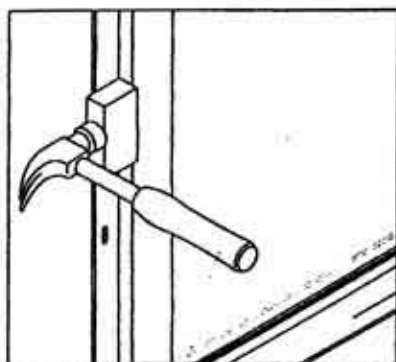
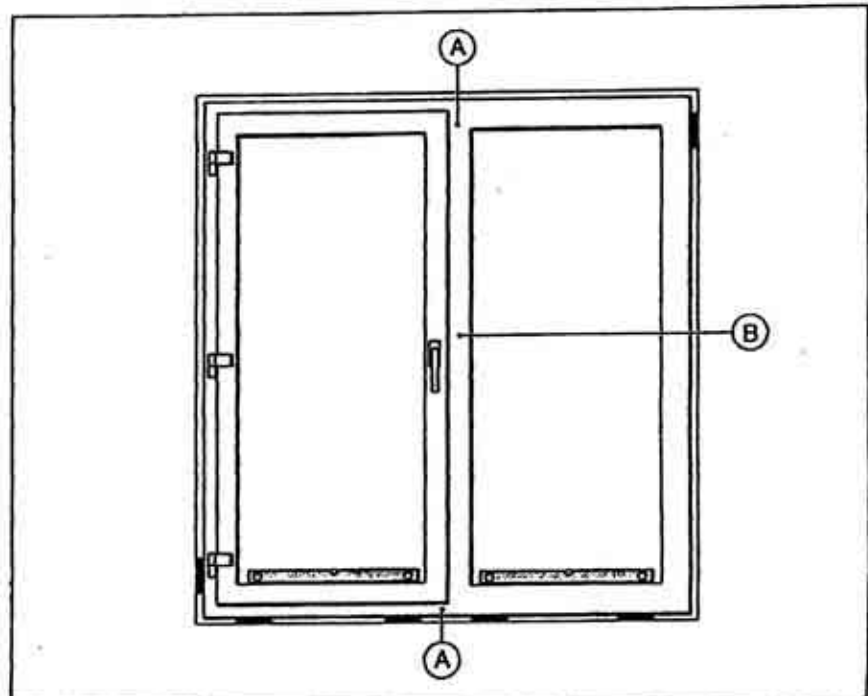

Figure 4-12. How to straighten a bowed frame
Figure 4-14. Where sashes sometimes bind
- 6.2 If the sash hardware binds at the top of the lock stile or at the bottom of the earail, the frame may not be level, or it may be out of square. See fig. 4-14 Item A. Use a spirit level and make sure that the sill is level and that the mullions and jambs are square. If the frame is not level or square, adjust the thickness of the shims to make it level and square.
- 6.3 If the sash hardware binds at the midpoint either the sash or the mullion became bowed during handling or installation. See fig.4-14 Item B. Use a straight edge and make sure that the sash and the mullion are not bowed. If either the sash or the mullion are bowed, make them straight as shown in fig. 4-12.